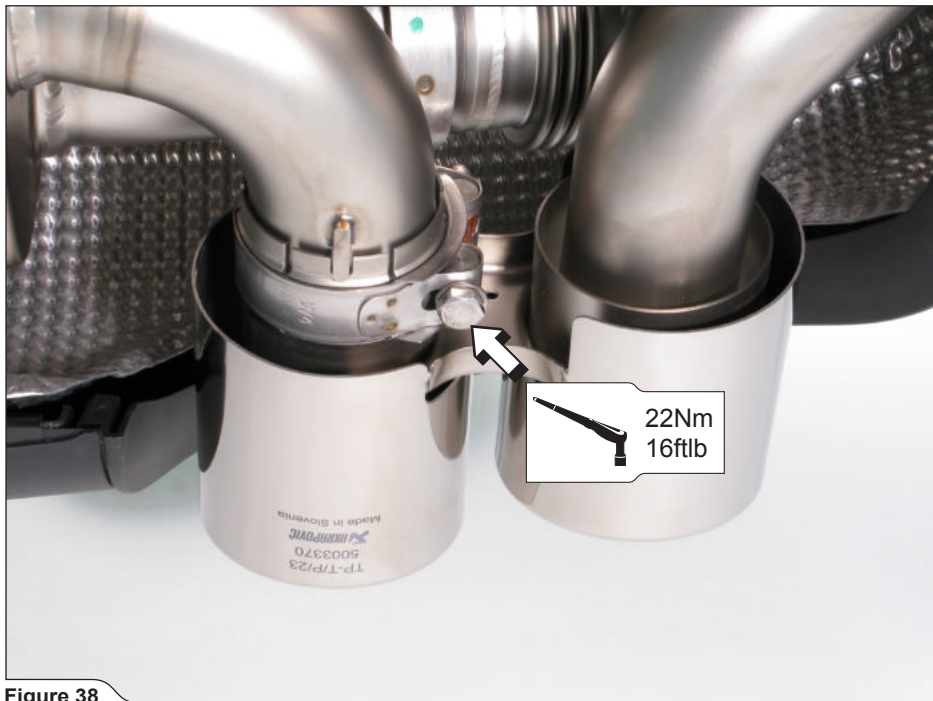

Figure 38
18. Tighten tail pipe clamps to the specified torque on both sides of the vehicle (**Figure 38**).